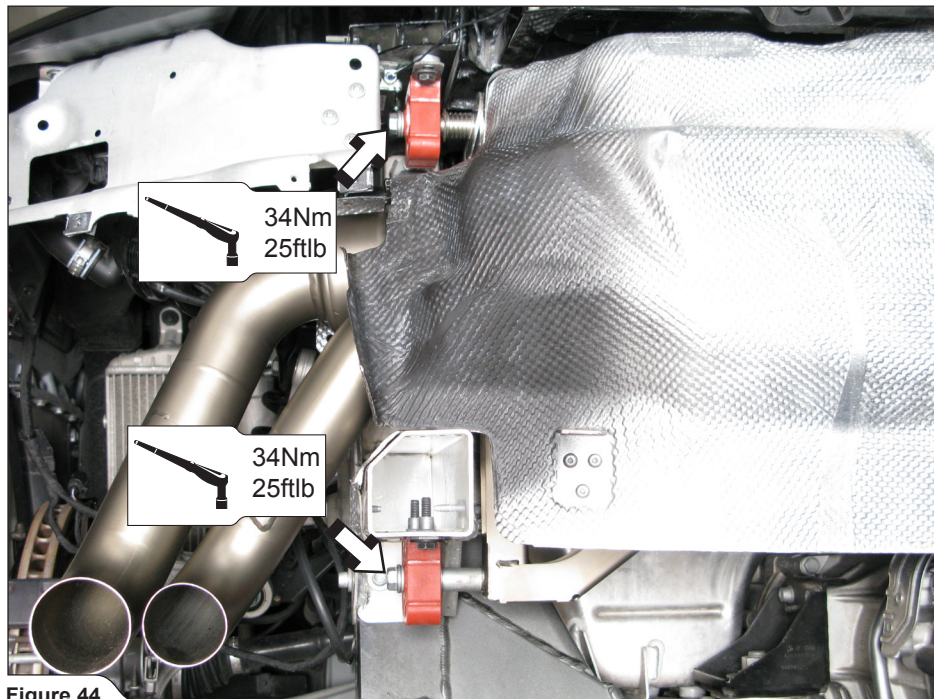

Figure 44
6. Carefully attach the assembled muffler onto the chassis, using stock bolts, washers and distance bushes (Figure 44).